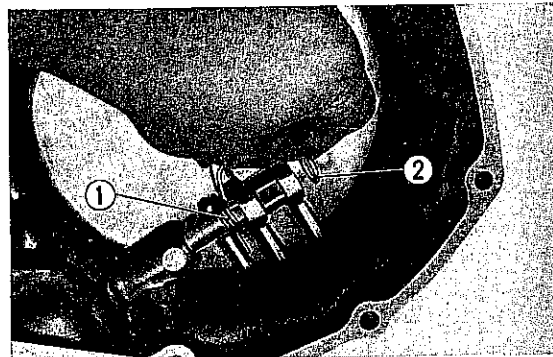

Fig. 358 ① Clutch lever spring ② 10mm washer
2. As shown in Fig. 358, install the clutch lever spring and 10mm washer on the clutch lever. Insert the cotter pin and spread its ends.